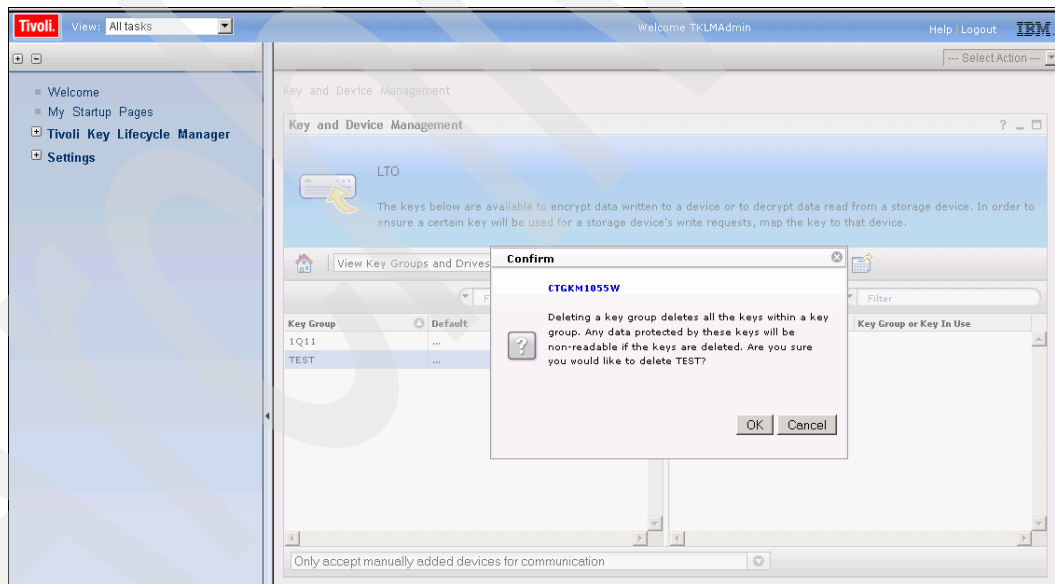

Figure 9-52 LTO key group deletion warning message
4. An LTO key group deletion warning is displayed (Figure 9-52).